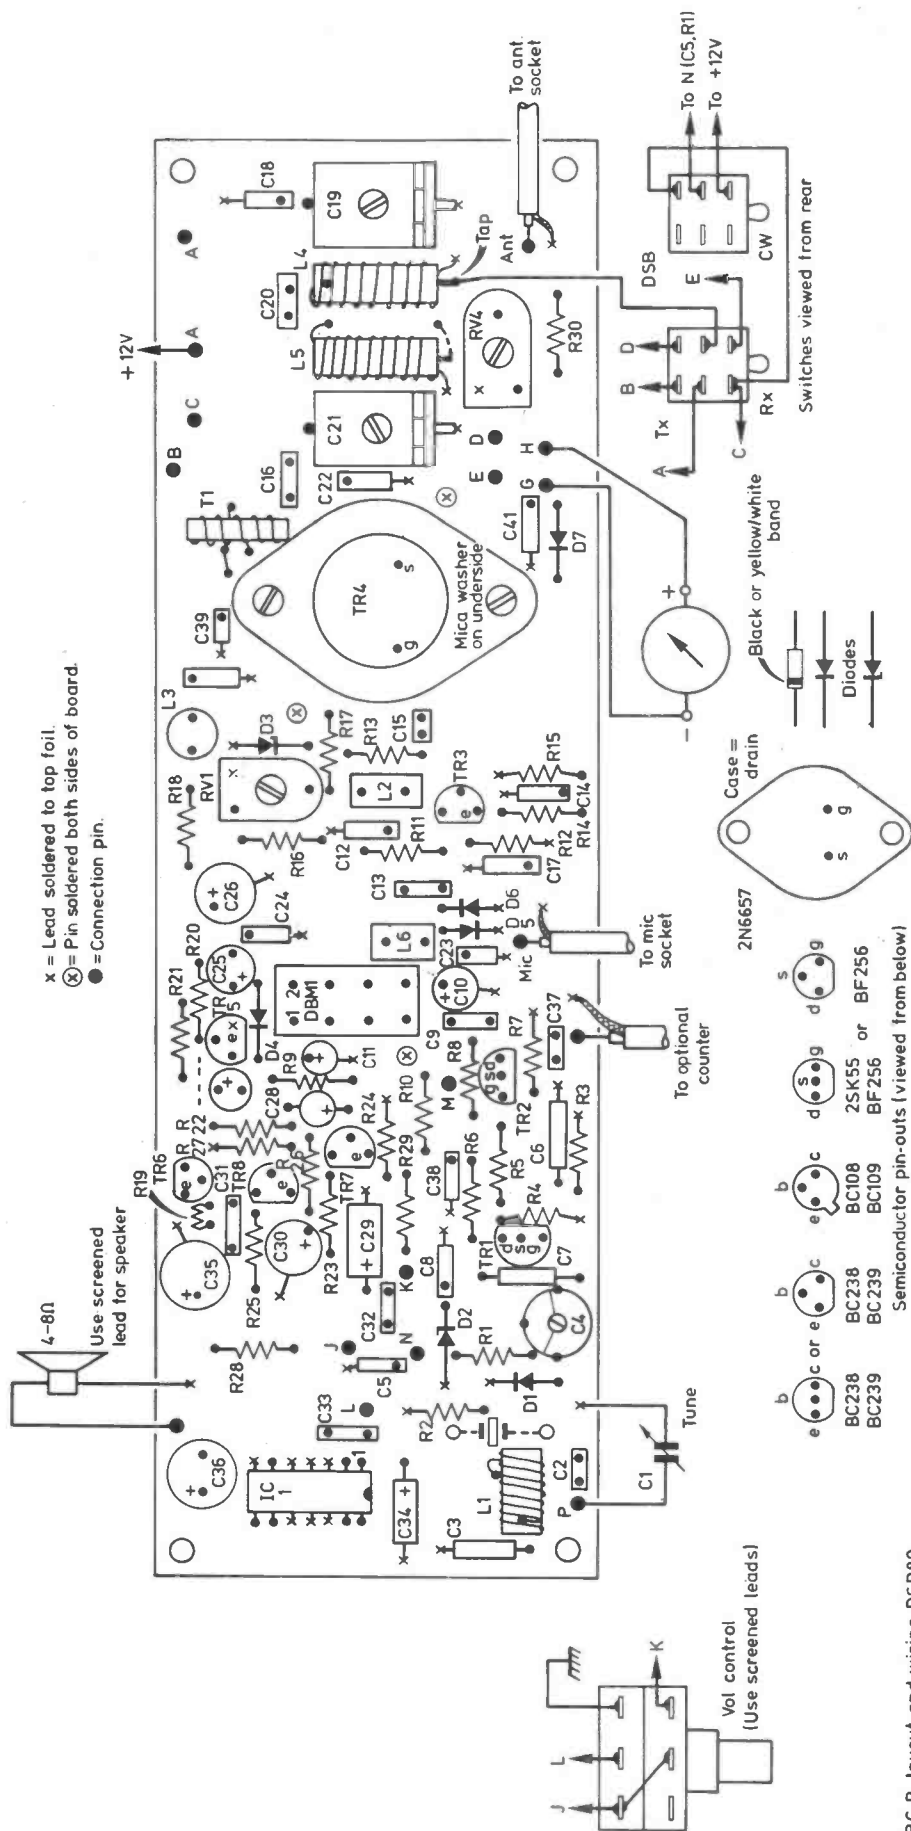

Fig. 3
All of the components mount on the non-track side of the pcb. Note that in certain cases one lead will be soldered to the track on the underside of the pcb, which acts as an earth plane. The layout diagram (Fig. 3) shows the latter points as crosses on the appropriate leads. There are also three holes that are soldered on both sides of the pcb using a short length of wire or solder pin through the hole, to bring earth connections through to the top side.
12. Insert each of the transistors (except the PA transistor) in turn and solder, making sure that the underside of the body is not more than 5mm above the pcb, and that the case orientation is correct. Note that Fig. 3 shows the case outlines for
The various components external to the pcb now need wiring in before checking the board and aligning it. Firstly connect up the Tx/Rx switch as shown in Fig. 3, using insulated wire, keeping the leads for points D, E and the tap (F) to about 5cm in length, and the remaining leads to about 8cm. Then connect up the DSB/CW switch. The audio gain control should now be wired up as per Fig. 3, using screened leads for each connection. A suitable speaker should be wired in, again using